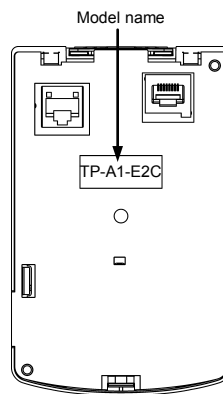

Figure 1.1 Back of Multi-function Keypad
- (1) The package contains a multi-function keypad and its instruction manual (this book).
- (2) There have been no problems during transportation. In particular, no parts are damaged or have fallen out of place nor are there any dents on the body.
- (3) The multi-function keypad has a label of the model name "TP-A1-E2C" on the back as shown in Figure 1.1.